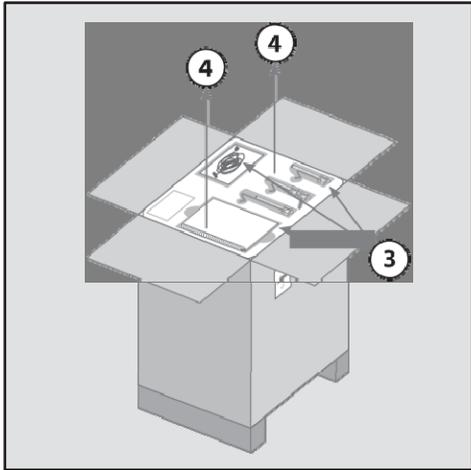

Fig 1.7: Remove the parts and the protective foam.
3. Open the carton and remove the parts (power cord, bag hangers) from the protective foam (see Fig. 1.7).